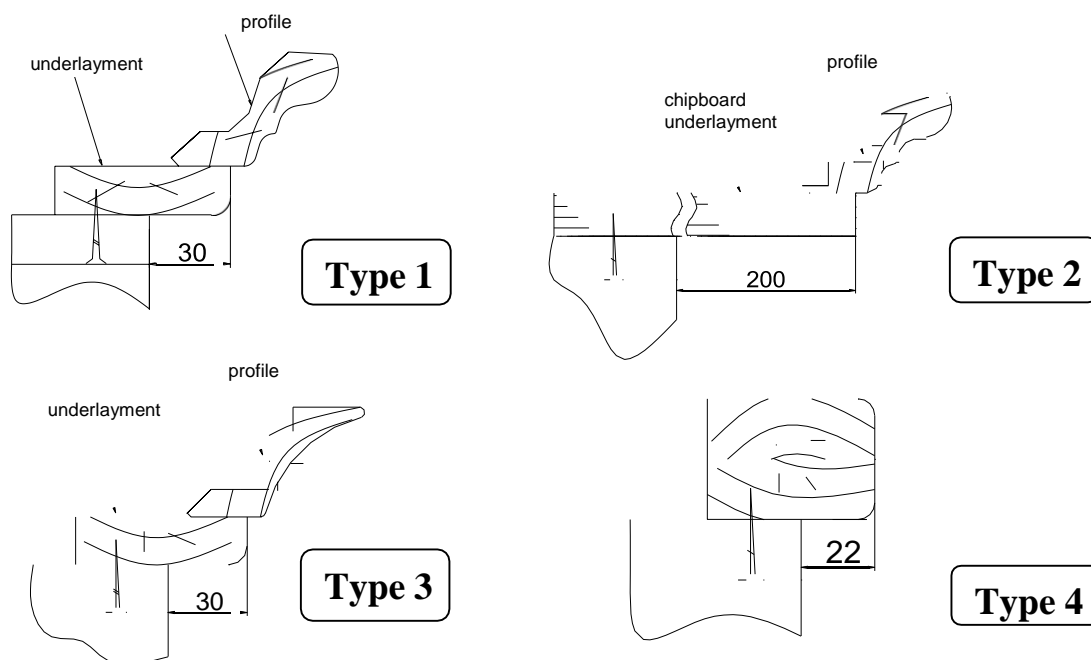

Fig. 23
- provide the corresponding hanging of the cornice relative to the front edges of the cabinet body (Fig. 23);